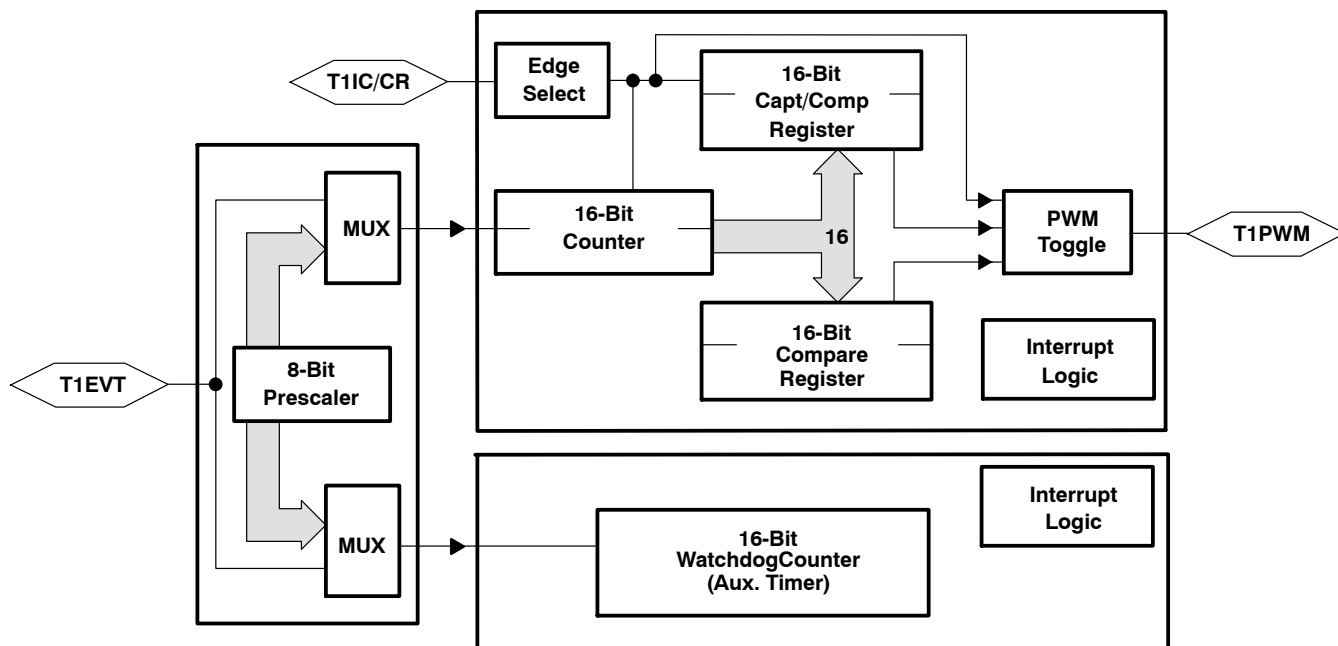

Figure 6. Timer 1 Block Diagram
The programmable timer 1 (T1) module of the TMS370Cx9x provides the designer with the enhanced timer resources required to perform real-time system control. The T1 module contains the general-purpose timer and the watchdog (WD) timer. The two independent 16-bit timers, T1 and WD, allow program selection of input clock sources (real-time, external event, or pulse-accumulate) with multiple 16-bit registers (input capture and compare) for special timer function control. The T1 module includes three external device pins that can be used for multiple counter functions (operation-mode dependent) or used as general-purpose I/O pins. The T1 module block diagram is shown in Figure 6.